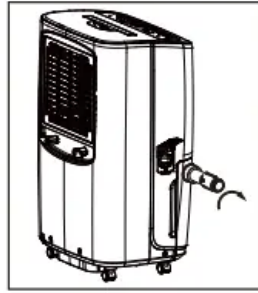

fig. 5
b. Screw the drainage adapter onto the threaded portion of the drainage connector of the unit securely. (fig.5&6)